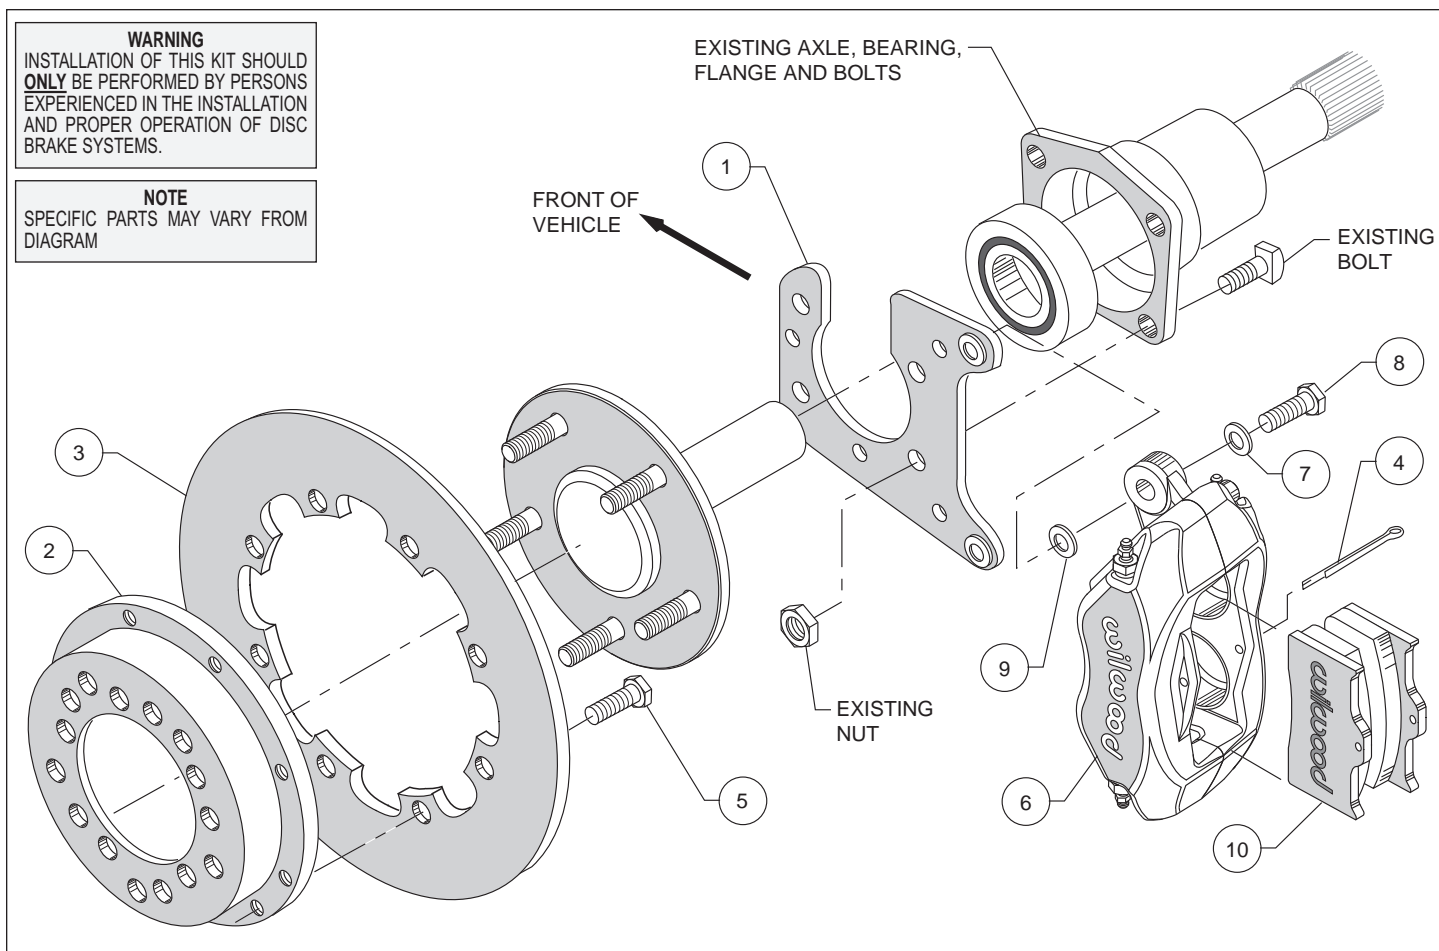
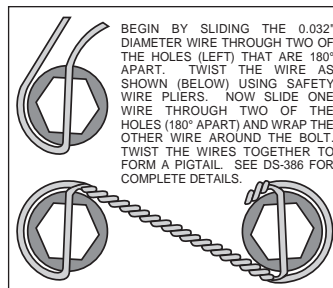
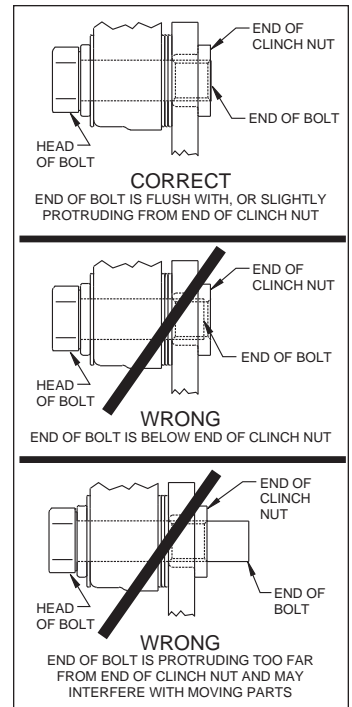

Figure 1. Typical Installation Configuration
Figure 4. Safety Wire Diagram
Figure 5. Clinch Nut Engagement Diagram
Assembly Instructions (numbers in parenthesis refer to the parts list, and Figure 1 on the preceding pages): **CAUTION:** All mounting bolts must fully engage clinch nuts. Be sure to check that all bolts are either flush or protruding through flanged side of clinch nut after shimming, Figure 5.
- Orient the caliper mount bracket (1) with the slot for the axle pointing upward, as shown in Figure 1 and Photo 1. Install using existing Original Equipment Manufacturer (OEM) bolts and washers. Temporarily tighten the mounting bolts. Ensure that the flanged heads of the clinch nuts in the bracket are facing outboard, Photo 1. **NOTE:** The bracket must fit squarely against the axle housing flange. Inspect for interference from casting irregularities, machining ridges, burrs, etc. Remove bolts one at a time, apply red *Loctite*® 271 to threads and torque nuts to manufacturer's specifications.
- Orient the rotor (3) and the hat (2) as shown in Figure 1 and Photo 2. Attach rotor to hat using bolts (5). Using an alternating sequence, apply red *Loctite*® 271 to the threads, and torque to 25 ft-lb. Safety wire bolts using standard 0.032 inch diameter stainless steel safety wire as shown in Figure 4. Refer to Wilwood's data sheet DS-386 (available at www.wilwood.com/Pdf/DataSheets/ds386.pdf) for complete safety wire installation instructions.
- Align the correct hole pattern in the rotor/hat with the stud pattern on the axle flange and slide into place, Figure 1 and Photo 3. **NOTE:** The rotor/hat must fit flush against the axle flange or excessive rotor run out may result. Install three lug nuts (finger tight) to keep the rotor/hat assembly in place while continuing with the installation. **NOTE:** Some OEM and after market axles come with stud sizes larger than 0.50" diameter. Verify stud size and have a qualified machine shop drill the bolt circle of the hat/rotor to the correct stud size, if necessary.
- **NOTE:** Please reference the caution statement at the beginning of the assembly instructions. Mount the caliper (6) onto the caliper mounting bracket (1) using bolts (8) and washers (7), as shown in Figure 1. Initially place one .032" thick shim (9) on each bolt between the caliper and the bracket, Photo 4. Temporarily tighten the mounting bolts and view the rotor (3) through the top opening of the caliper. The rotor should be centered in the caliper, Photo 5. If not, adjust by adding or subtracting shims (9) between the bracket and the caliper. Always use the same amount of shims on each of the two mounting bolts. **NOTE:** The end of each bolt must be flush with or slightly protruding from the head of the clinch nut, as shown in Figure 5. If necessary place spare shims between washer (7) and caliper mounting ear to achieve the proper clinch nut engagement. Once the caliper alignment and clinch nut engagement are correct, remove the bolts one at a time, apply red *Loctite*® 271 to bolt threads, and torque to 40 ft-lb.
- Install the disc brake pads (10) into the caliper, with the friction material facing the rotor (3), Photo (6) and secure in place using cotter pin (4), Photo 7.